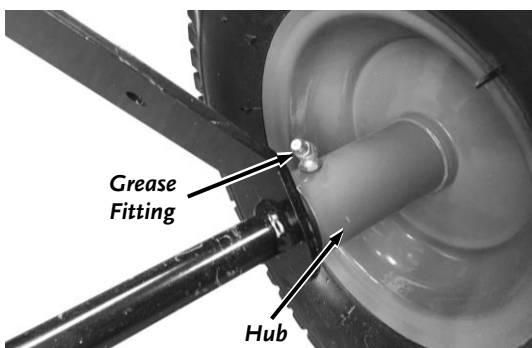

Figure 6
5. Grease the Fittings on the Wheel Hubs with a Grease Gun only until Grease starts coming out of the Hub (**Figure 6**).